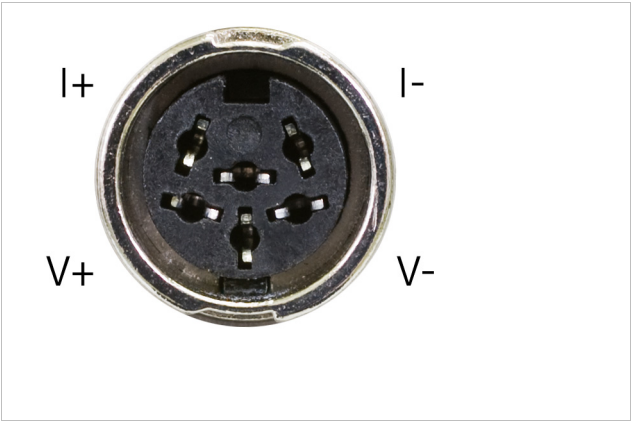

FIGURE 3-4 Control input connector
One 6-pin (240°) circular DIN 45322 receptacle is used for the resistive control input. One connector provides both voltage source excitation connections (V) and the current measurement connections (I). The control input mates with one of the 6-pin Circular DIN plugs included with instrument (Lake Shore P/N G-106-233). The control input sensor connector pins are defined in FIGURE 3-4 and TABLE 3-3. Refer to section 4.4 to configure the control input.